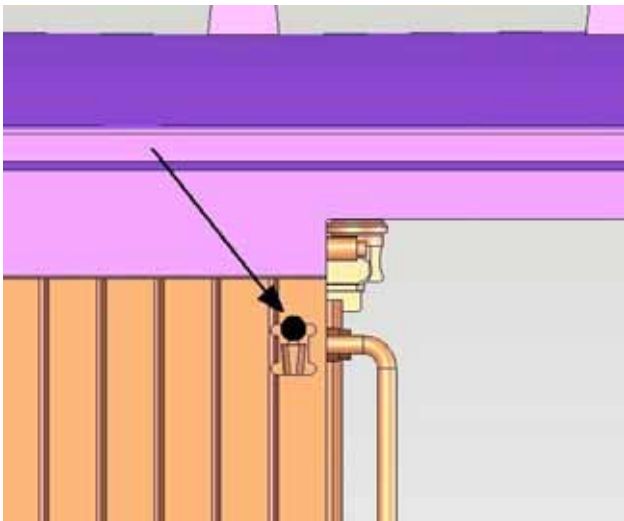

Figure 1
2. On the end you have chosen, drill a small hole in the side of the caboose, just above the marker lamp bracket as shown in Figure 1. Repeat on the opposite side of the crummy. Test fit the marker lamps before gluing. You may need to drill a slightly larger hole for the pin on the marker lamp to fit.